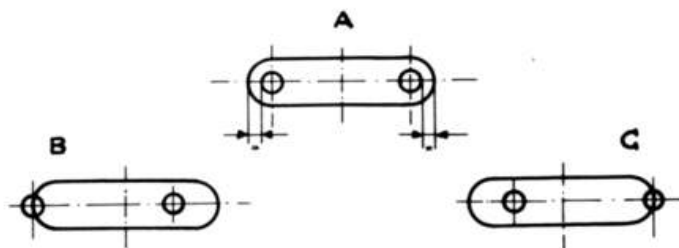

Fig. 25
If the graduated bridge is too long, the stitches will shift towards the left hand side (Fig. 25 b), if it is too short, towards the right hand side (Fig. 25 c).
The needle is equidistant from the needle hole edge both on the left hand and on the right hand side. (See Fig. 25 a).
To adjust, set stitch position button into the centre loosen bolt (82) with hexagonal head and hexagonal nut (8 mm spanner for bolt, 6 mm for nut) and shift needle into correct position as shown in Fig. 25 a. Retighten bolt (82).
Fig. 25 a 83 = Fastening screw for LH - C - RH displacement lever.